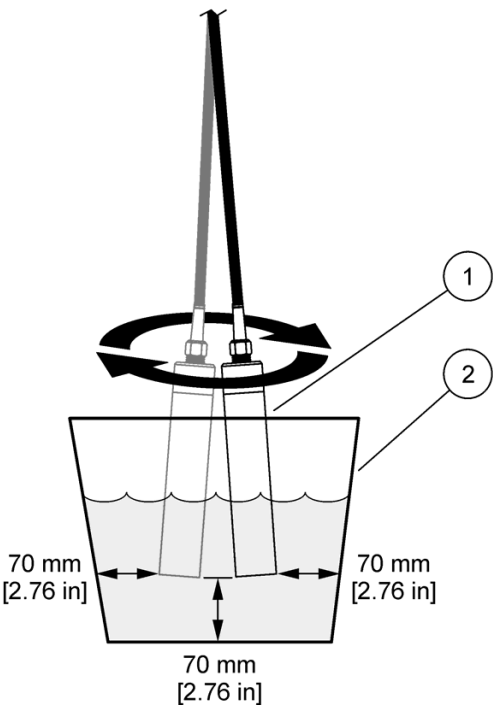

Figure 9 Minimum distances of the probe head in the container
10. Select **POINT...** (Point 1, 2 or 3), confirm with **ENTER/ON**. In so doing, stir the measuring medium with the probe. The distance between the probe head and the walls and base of the container must always be more than 70 mm (Figure 9). It takes 10 to 20 seconds to record the calibration point; then the selection menu for calibration appears. While recording, the display shows the note "Memory."